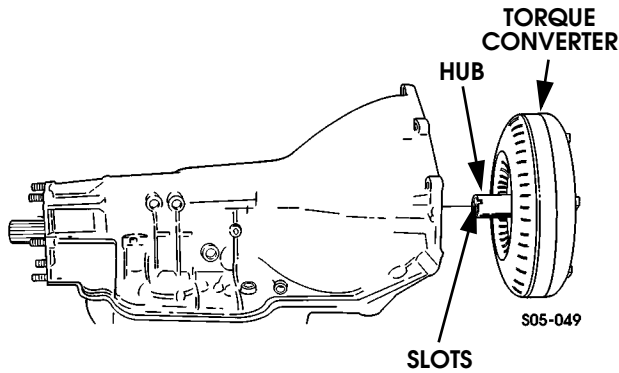

Figure 5-37: Torque Converter Removal/Installation
2. Remove torque converter from transmission (Figure 5-37).
7. Install torque converter. Be sure drive lugs on pump gear are engaged in drive slots of converter hub (Figure 5-37).